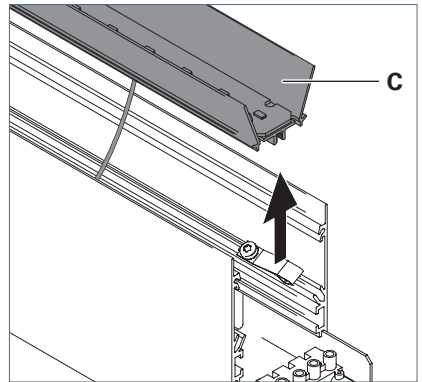

Fig. 20: Taking out the reflector.
- ▶ Remove the reflector **C** from the luminaire and place it beside the luminaire, see Fig. 20.